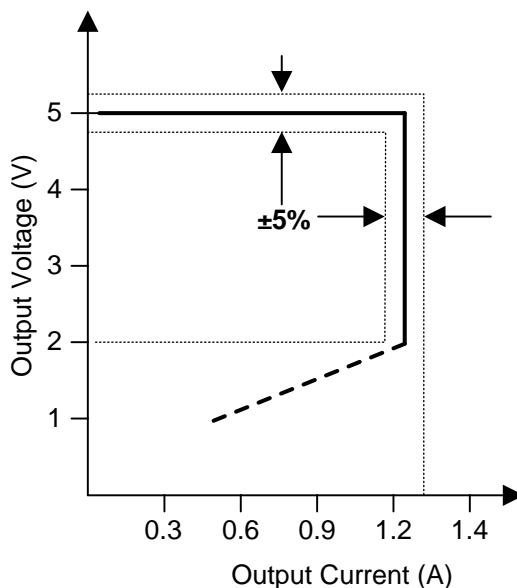

Figure 18. Target Output V-I Characteristic
The device is an HV switcher dedicated to an off-line power supply in an isolated flyback configuration. HV switcher means that device integrates the power switch, a 700-V power FET, with the control logic. The control logic controls both the output voltage and the output current without the need of an optical coupler. This control method is known as Primary-Side Regulation (PSR) and it operates by analyzing the voltage waveform on the auxiliary winding of the transformer. This allows significant cost saving with respect to traditional control scheme that uses an optical coupler. The transformer auxiliary winding is also used to provide housekeeping supply power to the control logic. The device operates in Constant Voltage mode (CV) when it is controlling the output voltage. The device operates in Constant Current mode (CC) when the output current is controlled. The device operates in CV mode or in CC mode according to the load condition. (See Figure 18). The control algorithm that implements both, modulation of the switching frequency and the amplitude modulation of the primary current peak, allows the power supply to operate efficiently over the entire load range. The high-voltage current source used for startup is kept off during normal operation thereby minimizing standby power consumption. The device also incorporates a smart power management to minimize its current consumption from the VDD terminal. This power consumption is reduced when the converter is lightly loaded or unloaded allowing for a total input power of less than 30 mW when converter input voltage is 265 V_{AC} and unloaded. A number of protection features inside the device allow for improved overall system reliability.